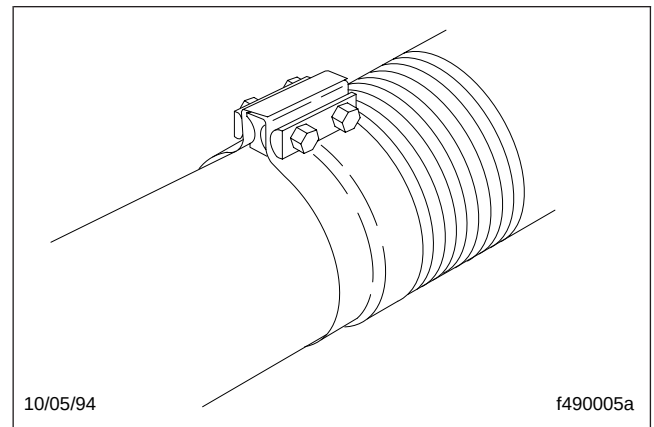

Fig. 2, Wide-Band Exhaust Clamp
3. Check for leakage at each wide-band exhaust clamp (**Fig. 2**). If leakage exists, tighten the nuts 40 to 60 lbf·ft (54 to 81 N·m). If leakage persists, install a new wide-band exhaust clamp. See **Group 49** of the *Business Class® Trucks Service Manual* for procedures.